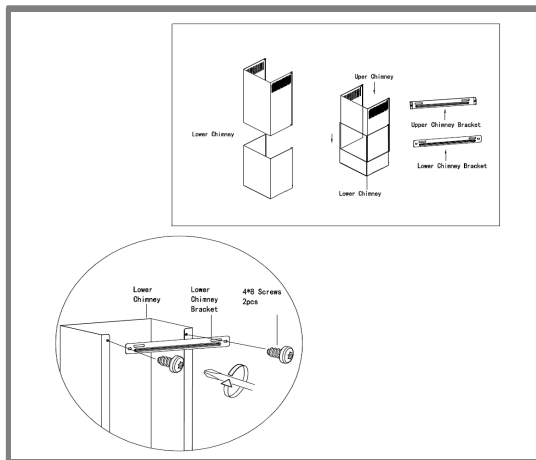

Fig.8
4 (Fig. 8, Fig. 8. 1, Fig. 8. 2)
- Secure the mounting bracket onto the screws firmly 1 & 2 and place the outer flue duct onto the appliances. (Fig. 8).